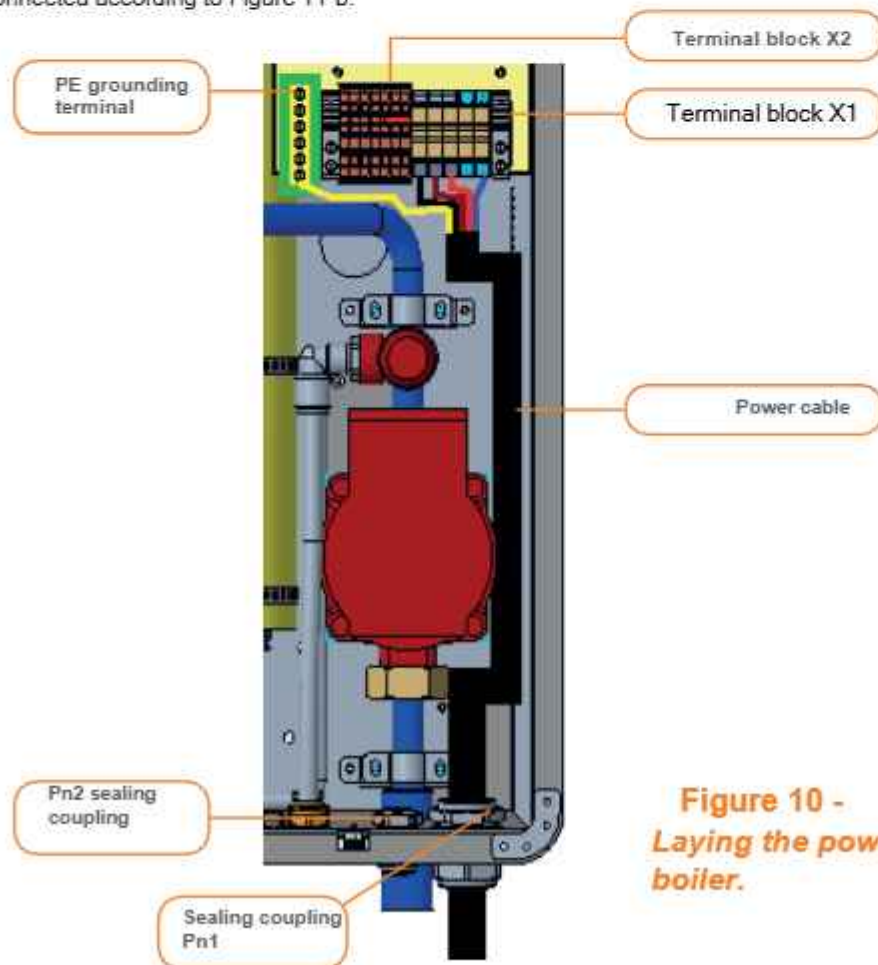

Figure 10 -
5.3.4 Insertion of cables into the electric boiler is carried out in the places of installation of sealing couplings in the lower part of the boiler body (see Figures 2, 10), the power cable must be passed through the sealing coupling Pn1, and other wires Pn2. Laying the power supply cable inside the boiler must comply with Figure 10.